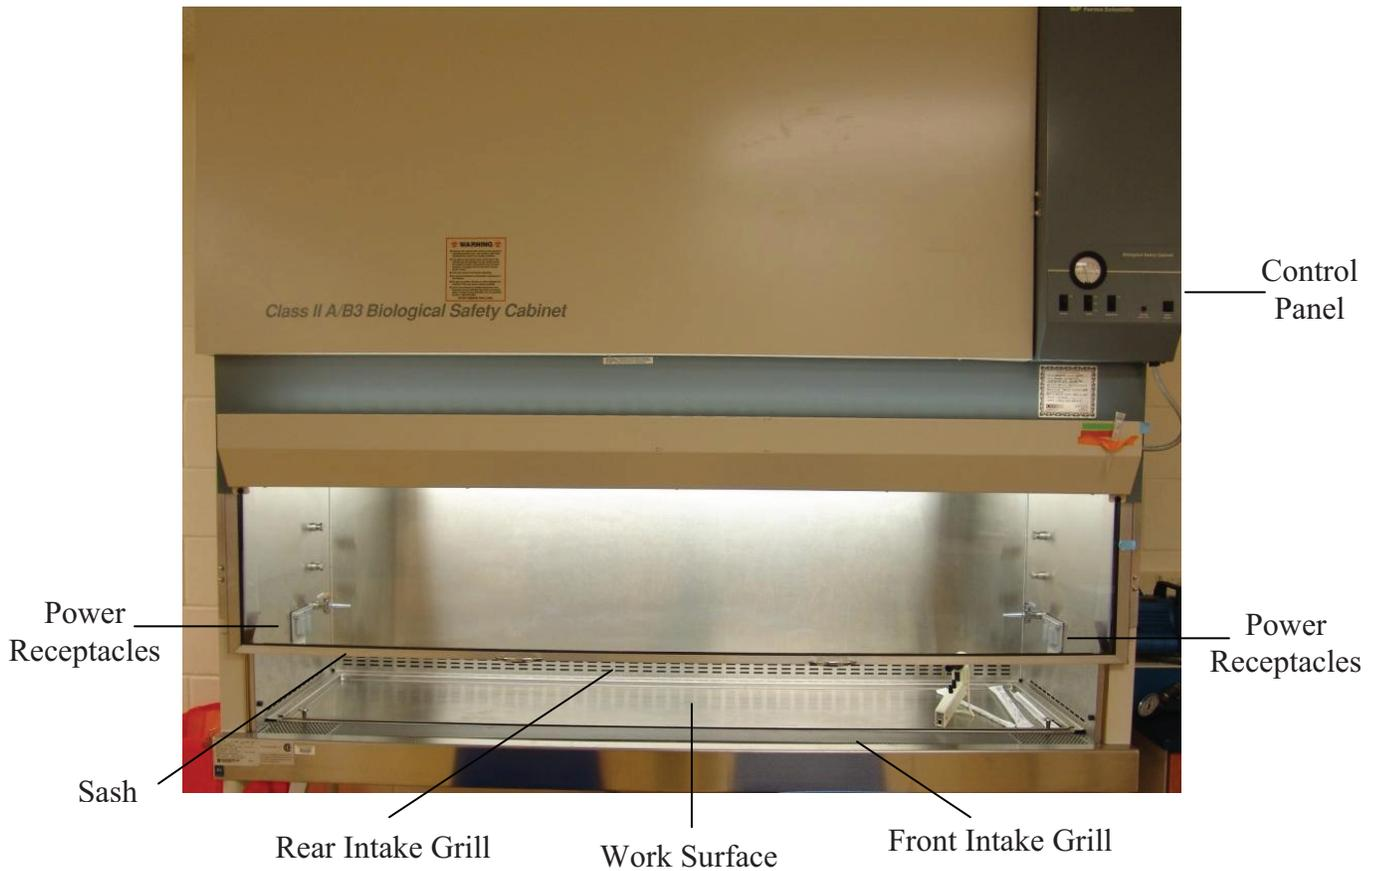

Figure 2: Biological Safety Cabinet Components
- 9.2. Figure 2: Biological Safety Cabinet Components